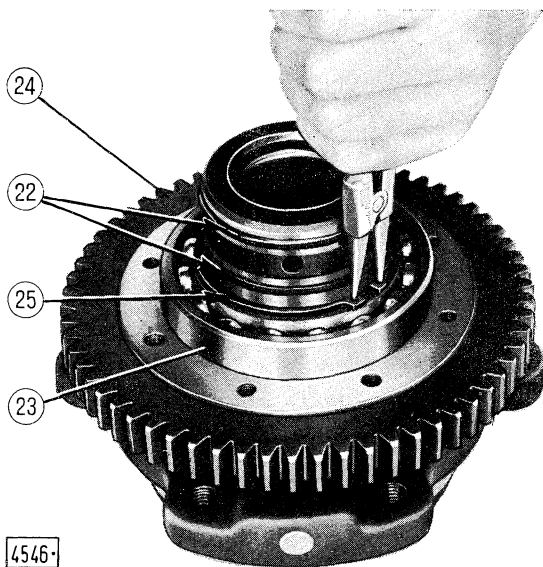

Fig. 325 - Removing (or Refitting) Intermediate Ball Bearing Circlip
— Refit sealing ring (31), reinstall drive gear (24, Fig. 325) as shown, lock intermediate ball bearing (23) with circlip (25) and reposition sealing rings (22).